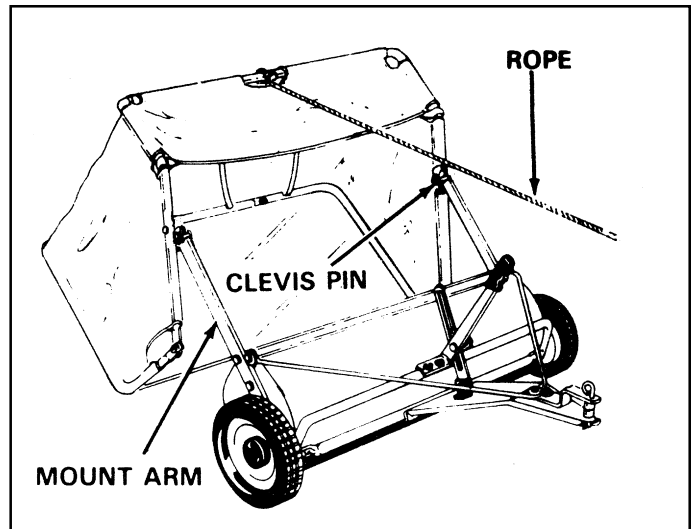

FIGURE 18
14. To assemble the hopper bag to the sweeper, pivot the bag retainers up and hook the clevis pins into the notches in the mount arms. Pivot the bag retainers down to lock the hopper bag onto the mount arms. See figure 18.